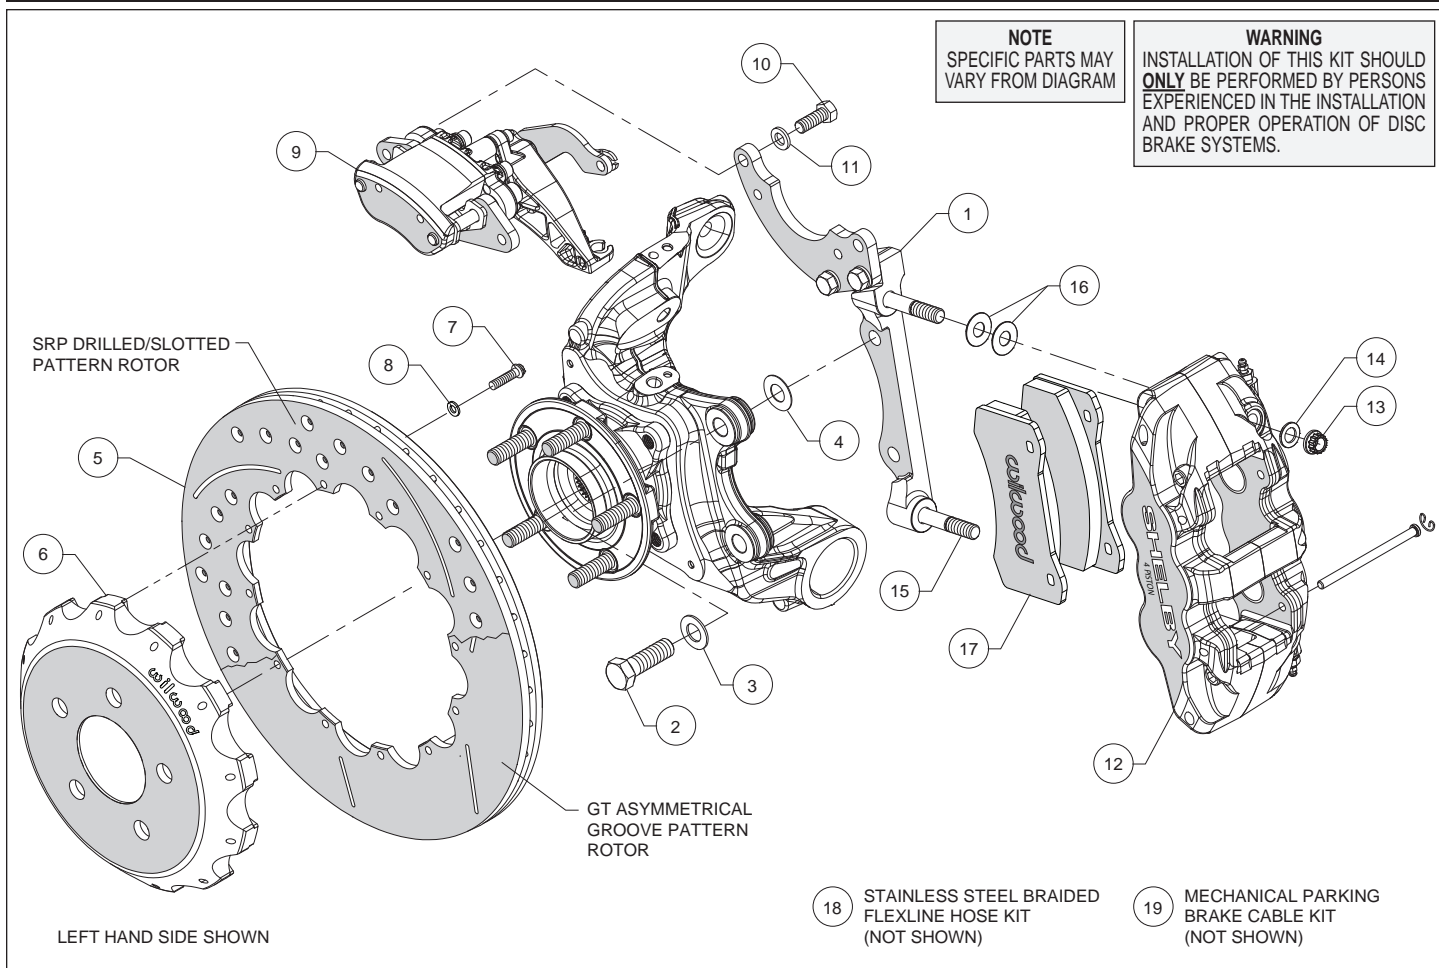
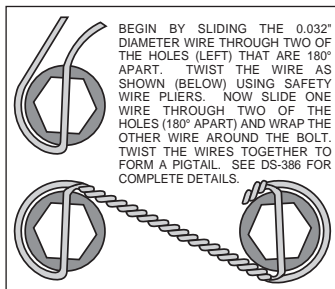

Figure 1. Typical Installation Configuration
Figure 3. Safety Wire Diagram
Assembly Instructions (numbers in parenthesis refer to the parts list and Figure 1 on the preceding pages):
- The caliper mount bracket (1) should initially be installed with clean, dry threads on the mounting bolts. Orient the bracket as shown in Figure 1, and Photo 1, and install using bolts (2) and washers (3). Initially place one .029" thick shim (4) on each bolt between the bracket and upright, Figure 1. Temporarily tighten the mounting bolts. **NOTE:** *The bracket must fit squarely against the mount bosses on the upright.* Inspect for interference from casting irregularities, machining ridges, burrs, etc. Later, after the caliper alignment has been checked, the mount bolts will be secured using red *Loctite*[®] 271.
- Orient the rotor (5) and the hat (6) as shown in Figure 1 and Photo 2. Attach rotor to hat using bolts (7) and washers (8). Using an alternating sequence, apply red *Loctite*[®] 271 to the threads, and torque to 155 **in-lbs**. For an added measure of security, the bolts may be safety wired using standard 0.032 inch diameter stainless steel safety wire as shown in Figure 3. Please refer to Wilwood's data sheet DS-386 (available at www.wilwood.com/Pdf/DataSheets/ds386.pdf) for complete safety wire installation instructions.
- Lubricate the caliper mounting studs (15) with lightweight oil. Initially place two .030" thick shims (16) on each stud as shown in Figure 1 and Photo 4. Mount the caliper (12) onto the bracket (1) using lock nuts (13) and washers (14), Figure 1. Temporarily tighten the lock nuts and view the rotor through the top opening of the caliper. The rotor should be centered in the caliper, Photo 5. If not, adjust by adding or subtracting shims (4) between the bracket and the mounting bosses. Always use the same amount of shims on each of the two mounting bolts. Once the caliper alignment is correct, remove the bracket mounting bolts one at a time, apply red *Loctite*[®] 271 to the threads, and torque to 77 ft-lb.
- Remove the two pad retaining pins from the caliper (12) by carefully popping out the pin retaining clips and sliding out the pins. Insert the brake pads (17) into the caliper from the bottom, Figure 1 and Photo 6. With the friction material facing the rotor, secure the brake pads in place with the pad retaining pins and clips, Photo 7. Reinstall the caliper onto the caliper mounting bracket and temporarily tighten the lock nuts. Check that the top of the brake pad is flush with the outside diameter of the rotor, Photo 8. If not, adjust by adding or subtracting shims (16) between the caliper and the bracket. After the caliper pad height is set, torque the caliper lock nuts (13) to 47 ft-lb.
- Orient the parking brake caliper (9), as shown in Figure 1 and Photo 9, and mount onto the top section of the caliper mounting bracket (1) using bolts (10) and washers (11), Figure 1. **NOTE:** *For this kit, the parking brake caliper marked 'right hand'*